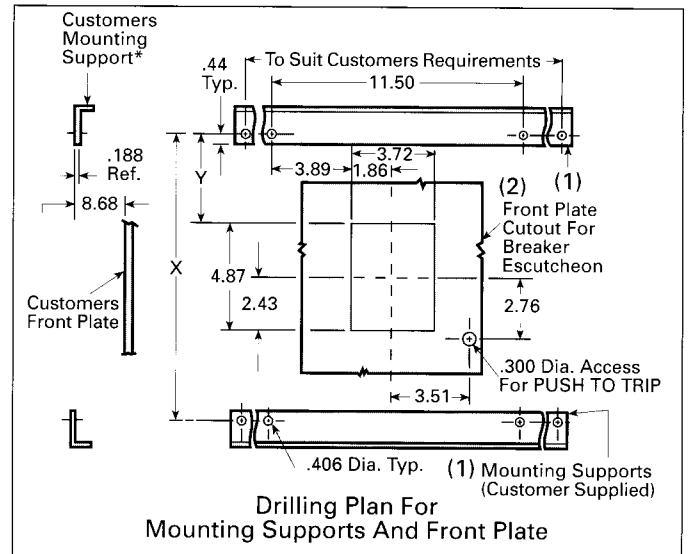

Figure 1
- Provide suitable mounting supports **(1)** and drill holes as shown in Figure 1. (Recommended use of 1-3/8 x 7/8 x 3/16 steel angle.)